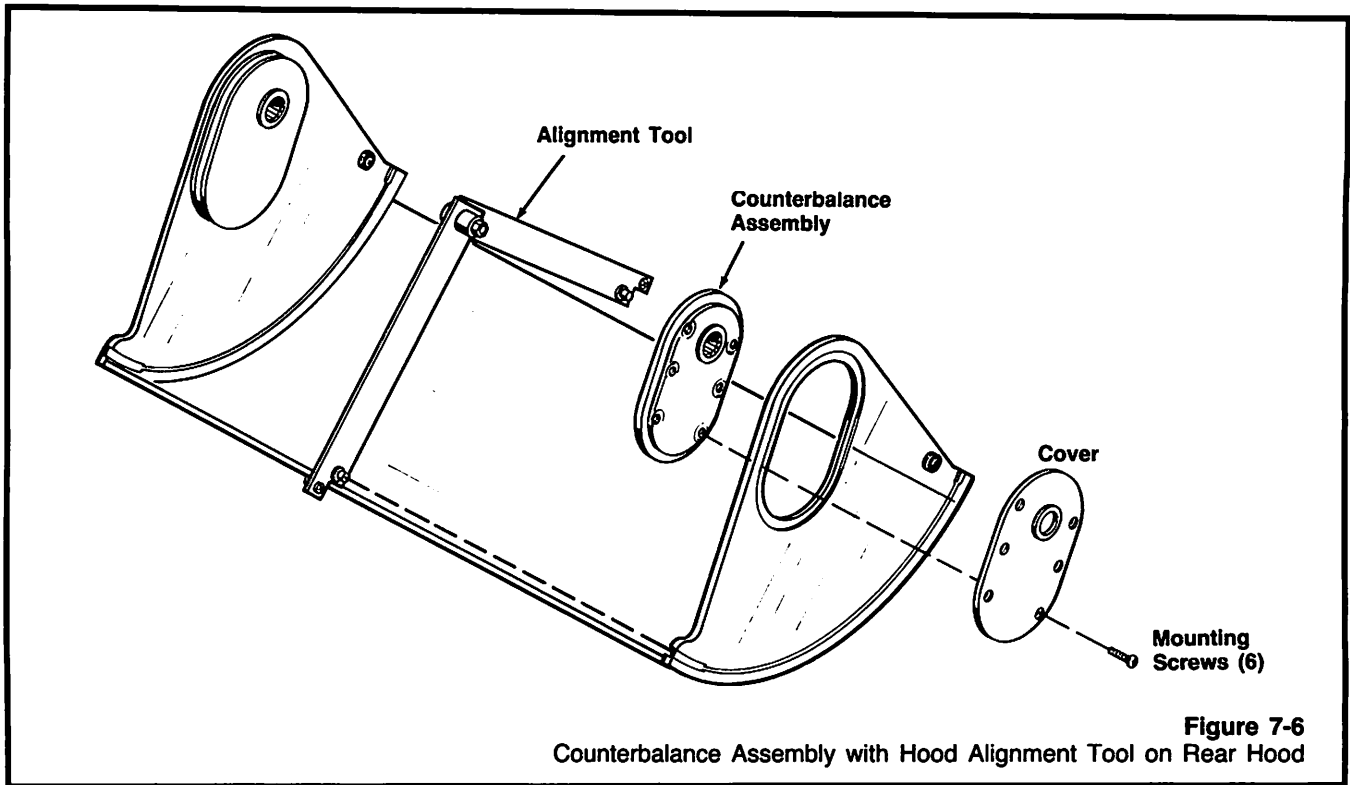

Figure 7-6
2. Place the replacement hood on the table or work bench and rest it on its outer wall (Figure 7-6).
4. Place the guide pins of the counterbalance tool into the grooves in the end of the hood (Figure 7-6).